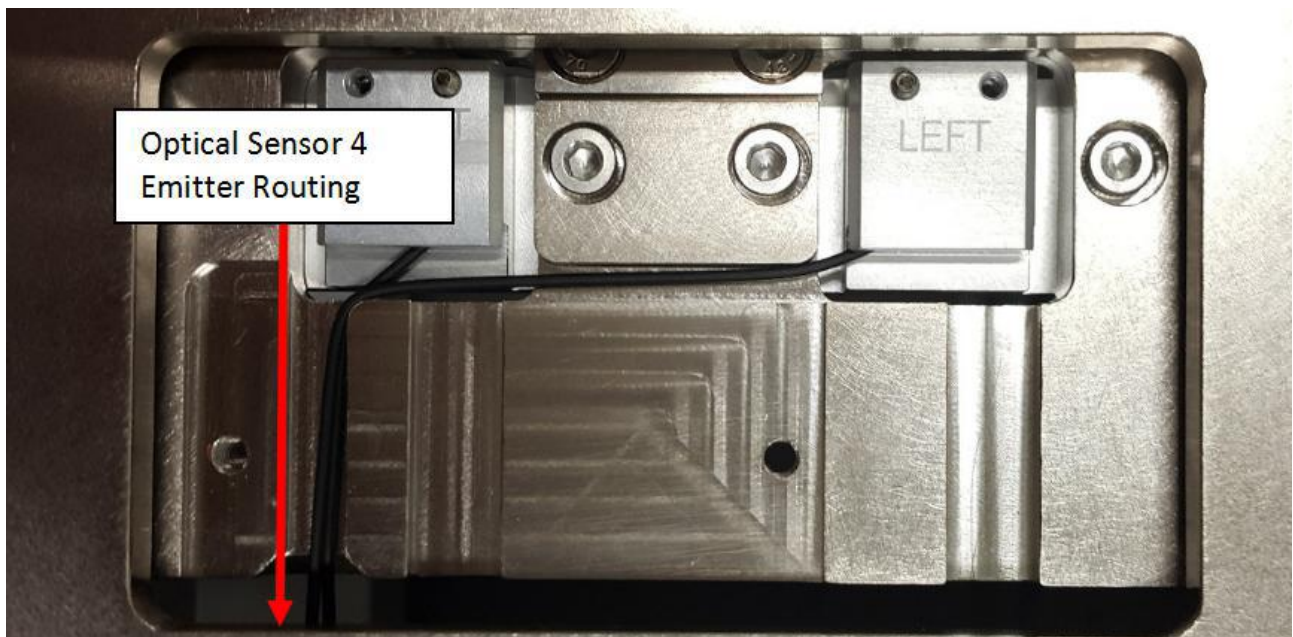

Figure 28 Optical Sensor 4 Emitter Routing
7. The routing for Optical Sensor 4 Emitter is as shown below in Figure 28.